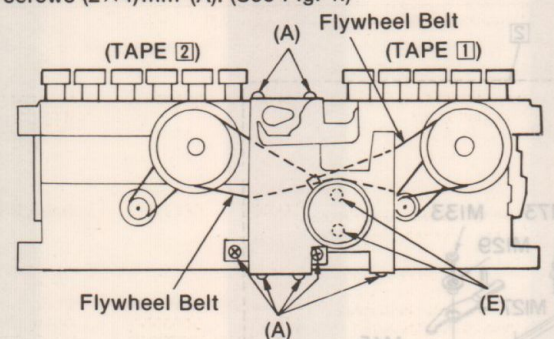

Fig. 1
1. Remove the flywheel belt and secure it to the motor. (See Fig. 1.)
Seven screws (2×4)mm (A). (See Fig. 1.)
3. Attach the motor ass'y to tape 1 and tape 2 mechanisms with the seven screws (2×4)mm (A). (See Fig. 1.)
Remove the motor attachment bracket, which will separate the Tape 1 and Tape 2 unit. (See Fig. 1.)
Remove the two colored screws (E). (See Fig. 1.)